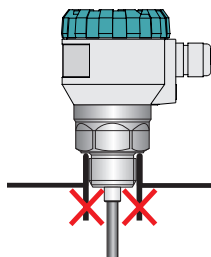

Fig. 6: Incorrect welding flange mounting to the tank
- The end of the socket or the welding flange must not have an extension into the tank in Fig. 6.